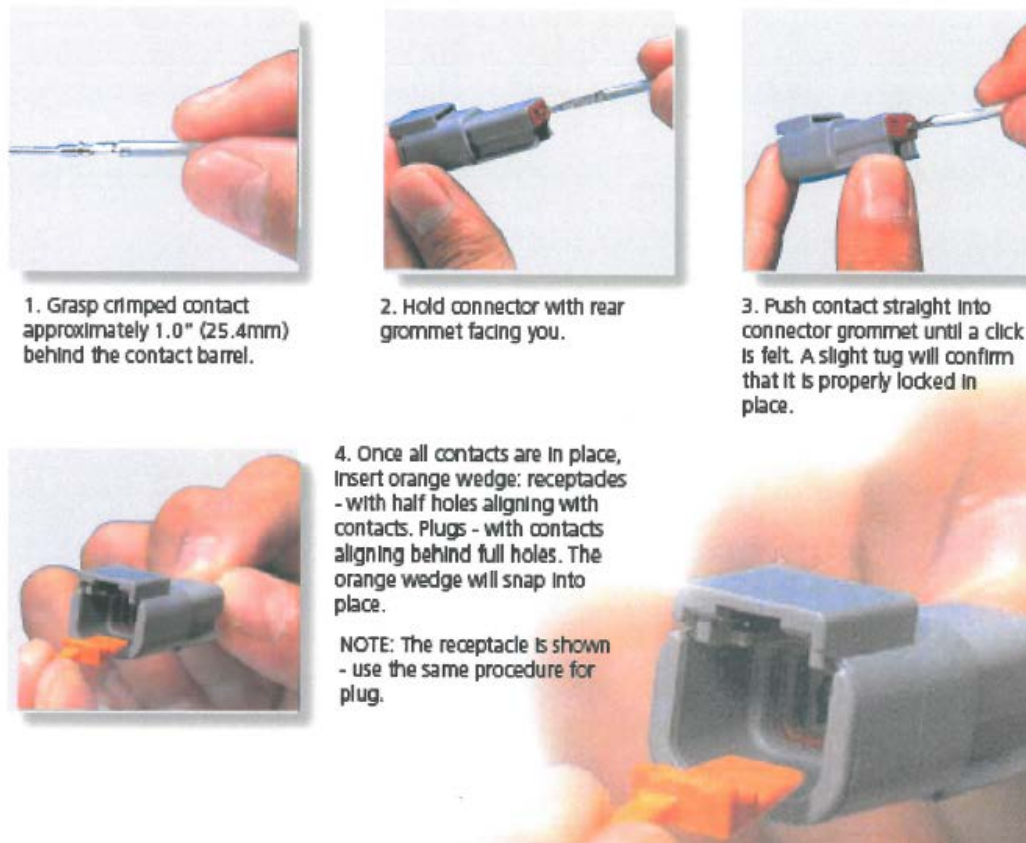

Figure 6: Deutsch connector contact insertion
4. Insert each contact into the supplied plug/receptacle per Figure 6.
6. Insert the supplied wedge lock into the plug/receptacle per Figure 6.